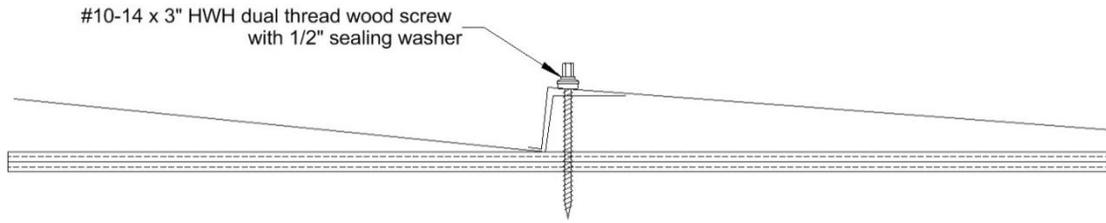

Figure 4: Terrabella Classic® Panels Fastened to Deck
**Panel Attachment:** The panels are secured to the roof deck with four No. 10-14 x 3" HWH self-drilling, dual thread corrosion resistant wood screws with 1/2" sealing washers per panel. The first screw is located 1" from the panel edge and the remaining screws spaced 14-5/8" o.c. The screws are installed through the top of the head lap securing the panel to the wood deck. Refer to Figure 4 for attachment details.